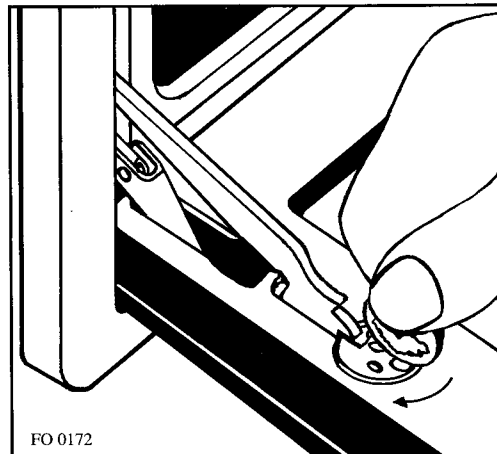

Fig. 9a
2. With the aid of a coin, remove the two retaining discs a quarter turn clockwise, so that the two raised bars are to the left hand side of the hinges, see Fig. 9A.